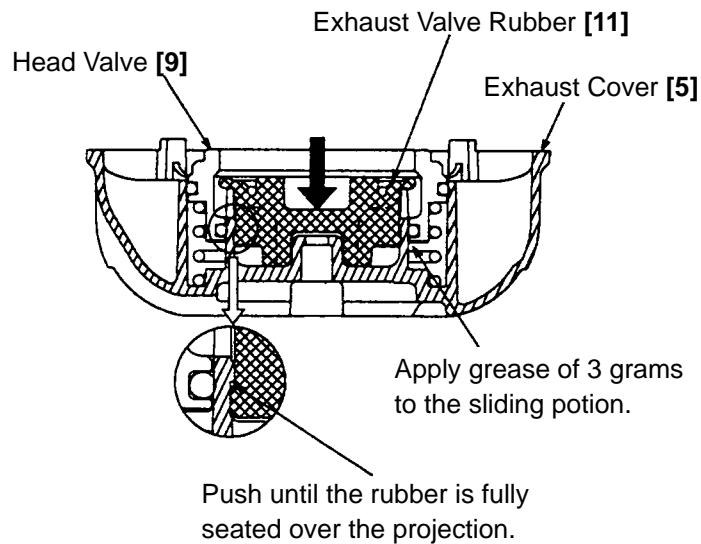

Fig. 12
- As shown in Fig. 12, firmly push the Exhaust Valve Rubber [11] until it is fully seated over the projection of the Exhaust Cover [5].